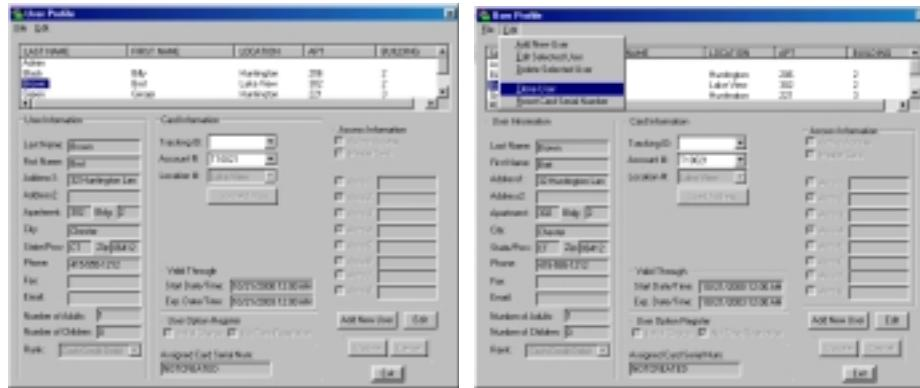

Figure 6.6 Cloning a User
3. Select Clone User from the Edit drop-down menu (Figure 6.6).